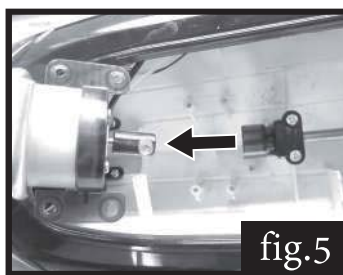

fig.5
5.Lift the end of motor up carefully, then disconnect the motor from the main shaft,fig.5.